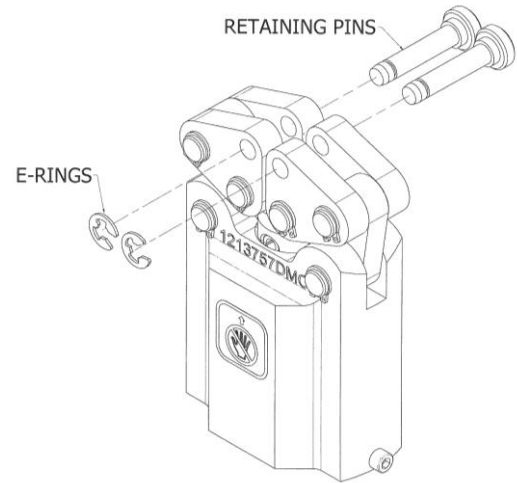

Figure 1. Remove Retaining Pins
1. Remove the retaining pins from the adaptor assembly (see figure 1).